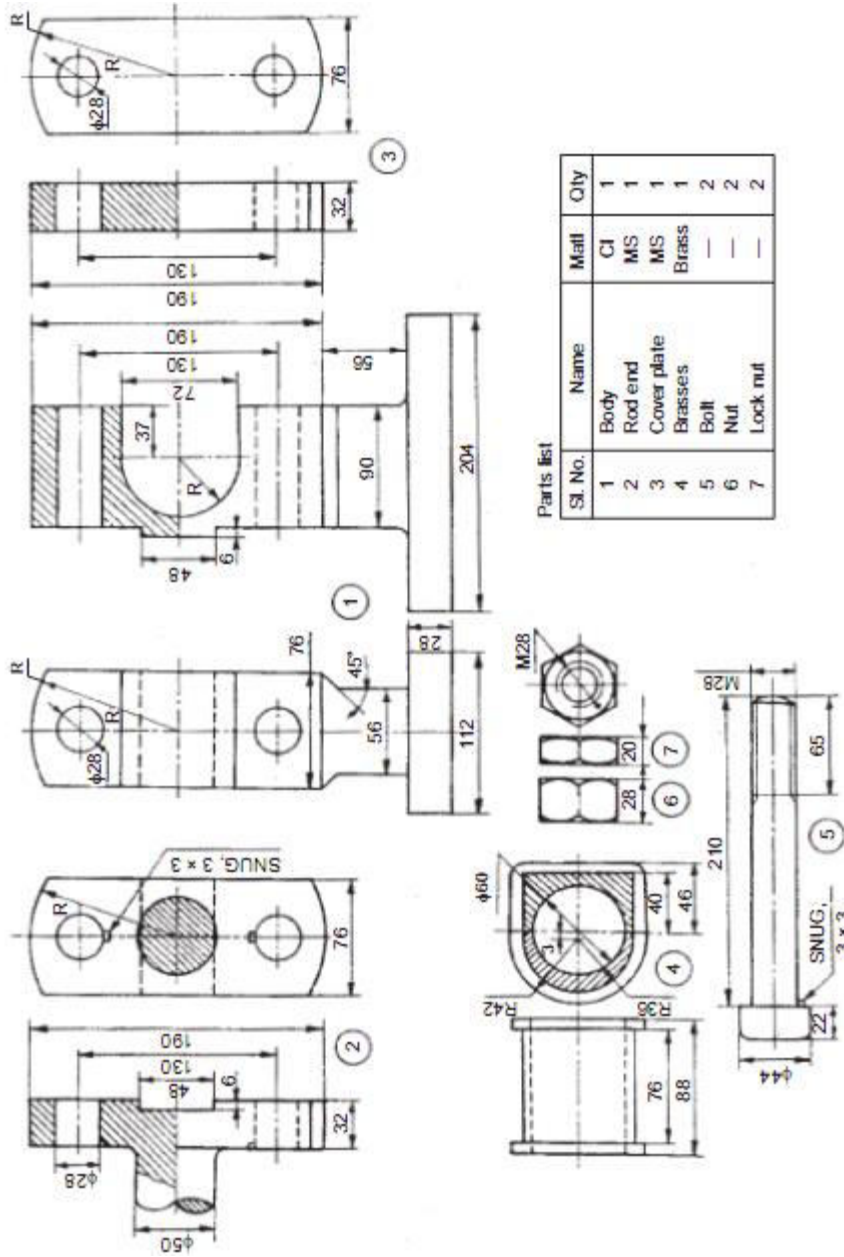

Fig 2
10. Assemble different parts of cross head (Fig 2) and draw the following views for the assembled unit